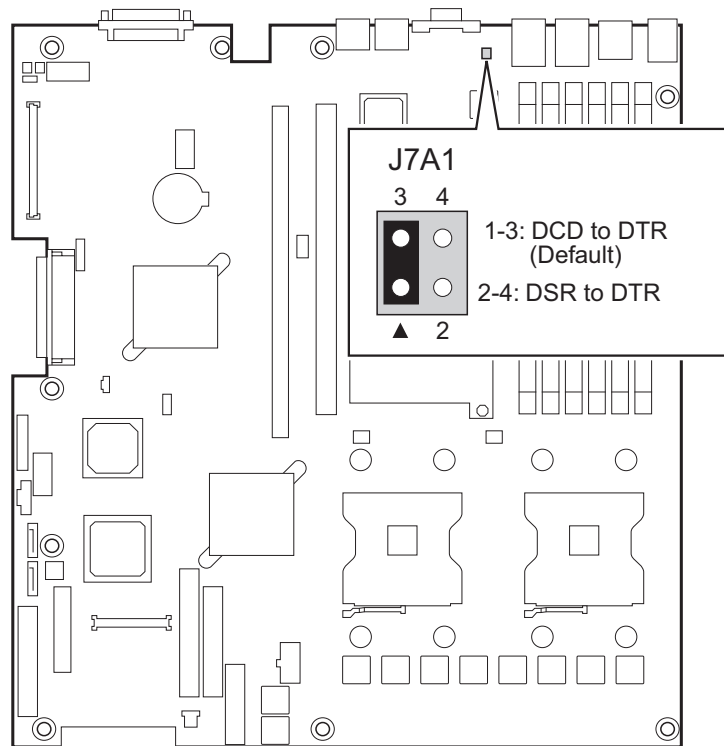

Figure 24. Changing the Serial Port Configuration
5. Locate the jumper block for the serial port. See figure 24.